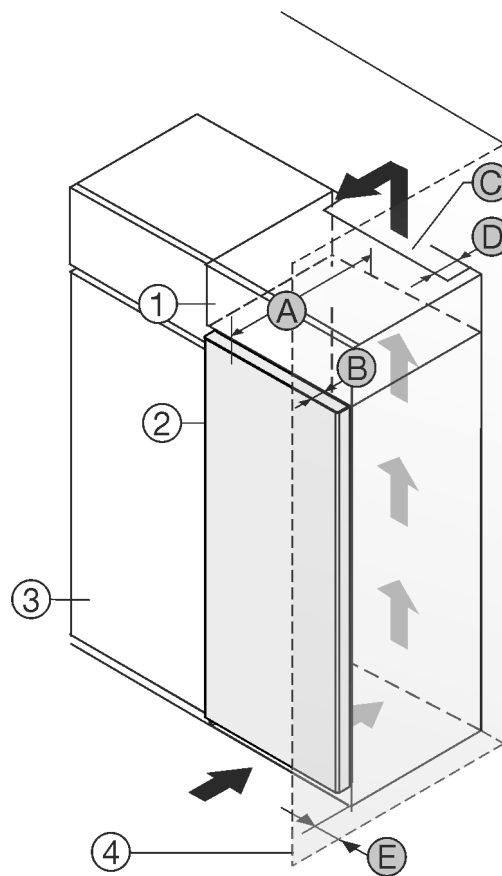

Fig. 1
- (1) Top cupboard*
- (2) Appliance*
- (3) Kitchen cabinet*
- (4) Wall*
- (A) Appliance depth*
- (B) Door depth*
- (C) Ventilation cross-section*
- (D) Distance to the rear of the appliance*
- (E) Distance to the side of the appliance*
You can place the appliance directly beside the kitchen cabinet Fig. 1 (3)*.
There must be a ventilation shaft at the depth Fig. 1 (D) of the back of the top cupboard over the entire width of the top cupboard.*
The cross section of the ventilation gap Fig. 1 (C) must be maintained below the ceiling.*
If the appliance is set up with the hinges next to a wall Fig. 1 (4), the distance between the appliance and the wall must be at least 13 mm.*
If the appliance is set up with the hinges next to a wall *Fig. 1 (4)*, the distance between the appliance and the wall must be at least 20 mm.*
In order to be able to fully open the door, the appliance must protrude by the depth of the door *Fig. 1 (B)* from the front of the kitchen cabinet. Regardless of the depth of the kitchen cabinets *Fig. 1 (3)* and use of wall spaces, the appliance can protrude further.*